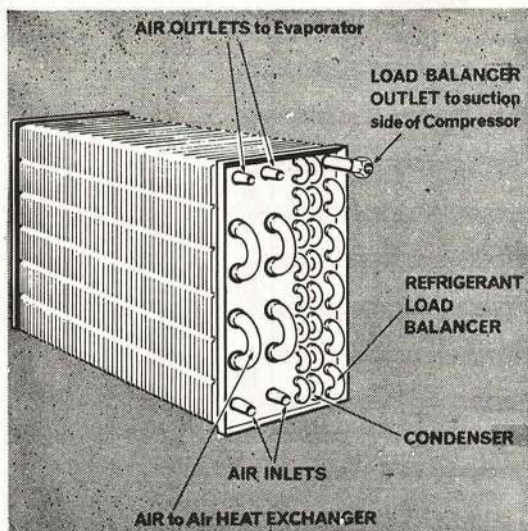

Fig. 14. COOLER BLOCK
65. **Cooler Block.** The cooler block (Fig. 14) is of the air-cooled type. The block embodies three runs of tubes; one run forms a condenser, the second a refrigerant load balancer and the third an air-to-air heat exchanger (this run is not actually a part of the refrigeration plant).